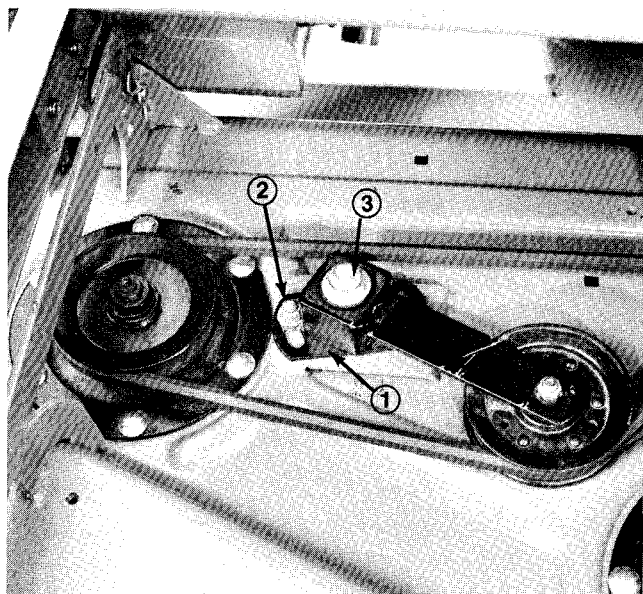

Figure 31
3. Loosen two nuts securing idler plate in place (Fig. 31). Using a socket and torque wrench, tighten the idler adjusting nut (Fig. 31) until proper torque value is achieved.
4. Hold the torque against the belt and tighten the two nuts so idler plate is held securely in place (Fig. 31). Release the idler adjusting nut and install cover with capscrews and lockwashers.
3. Loosen two nuts securing idler plate in place (Fig. 31) and remove old belt from pulleys.